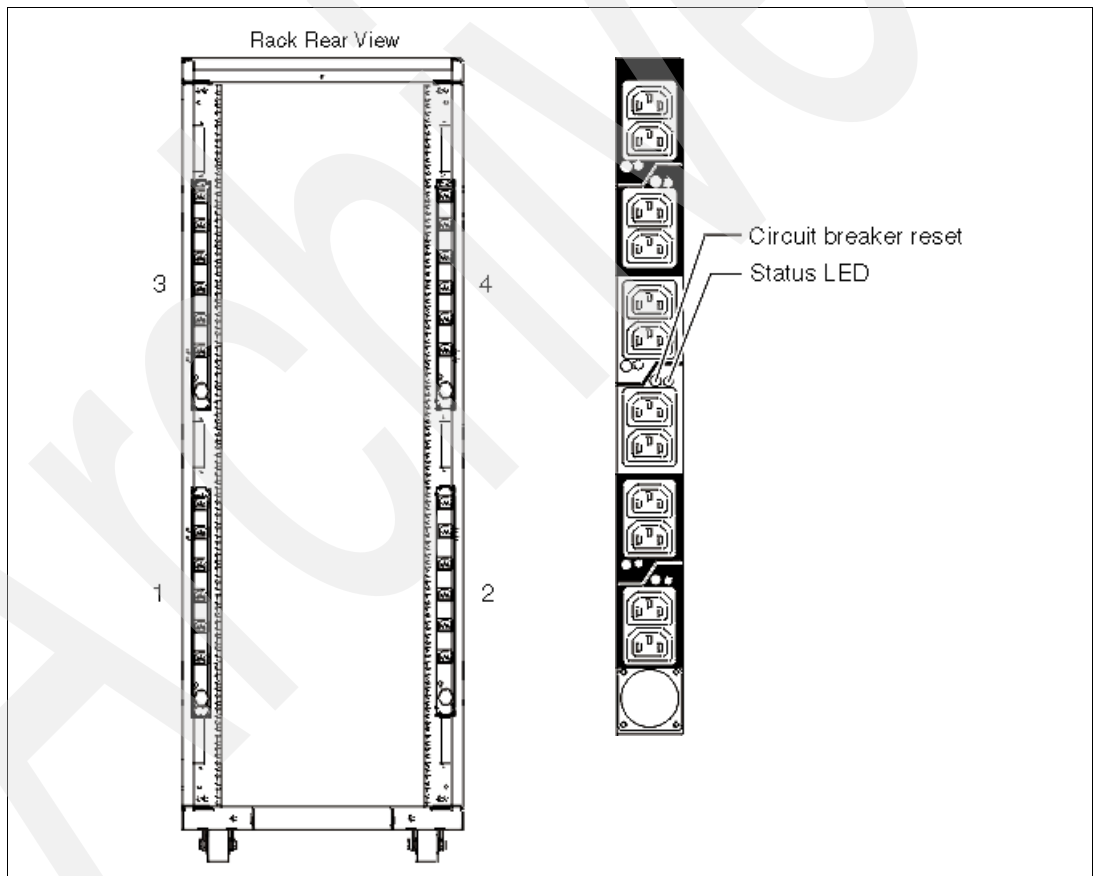

Figure 1-3 PDU placement and PDU view
- ▶ Up to four power distribution units (PDUs) can be mounted in the PDU bays (see Figure 1-3 on page 17), but others can fit inside the rack. See 1.11.7, “The ac power distribution unit and rack content” on page 17.
Four PDUs can be mounted vertically in the back of the T00 and T42 racks. See Figure 1-3 for the placement of the four vertically mounted PDUs. In the rear of the rack, two additional PDUs can be installed horizontally in the T00 rack and three in the T42 rack. The four vertical mounting locations will be filled first in the T00 and T42 racks. Mounting PDUs horizontally consumes 1U per PDU and reduces the space available for other racked components. When mounting PDUs horizontally, use fillers in the EIA units occupied by these PDUs to facilitate proper air-flow and ventilation in the rack.